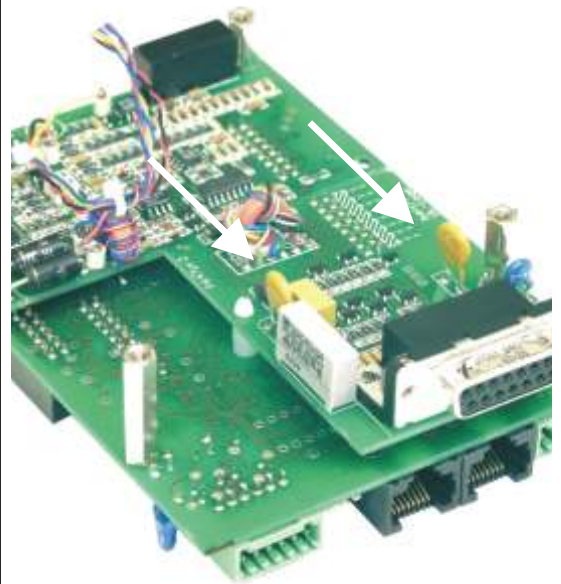

fig. 4 - 14
- Check fuse F27_2 in series with Ø (pin 8 of CON E) (see fig. 4 - 14). To check the fuse measure the voltage between Ø and the minus output, a high voltage means too much current flowing through the fuse. F27_2 = 650 mA, self resetting.